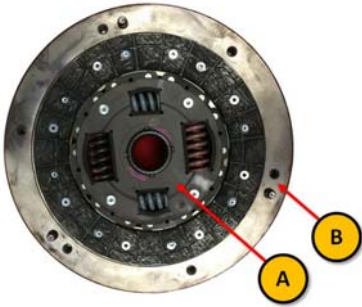

Figure 47
- Refer to Figure 47:
2. Place clutch disc assembly (A) (OHT p/n OHTIVB-31250-1) onto the flywheel (B).